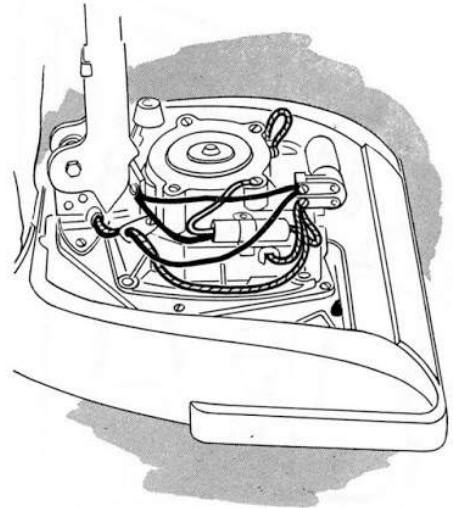

FIG. 136—Models 90, 91 and 913 motor wiring diagram
9. To disconnect **wiring from Models 90, 91 and 913 motors:** Fig. 136.